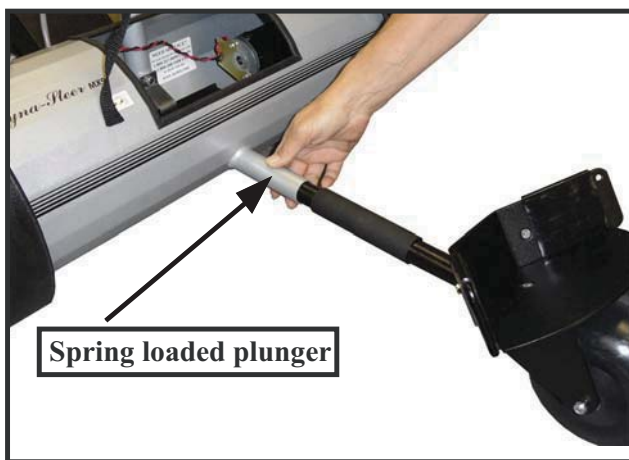

Figure 4
1. Carefully slide the front wheel assembly into the body. See figure 4. Press the spring loaded plunger with your thumb to allow the front wheel assembly to be fully inserted. The plunger will lock itself into position.